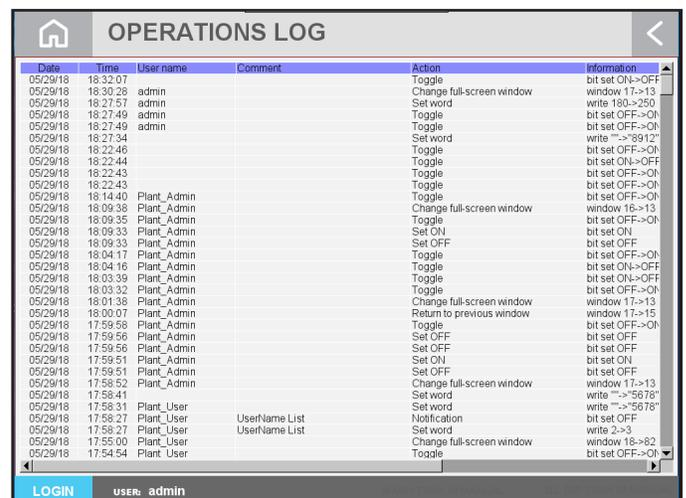

Figure 12.4: Operations Log screen
- Shows a log of all system operations with users, actions, timestamps, and other information for reference or troubleshooting [Figure 12.4].